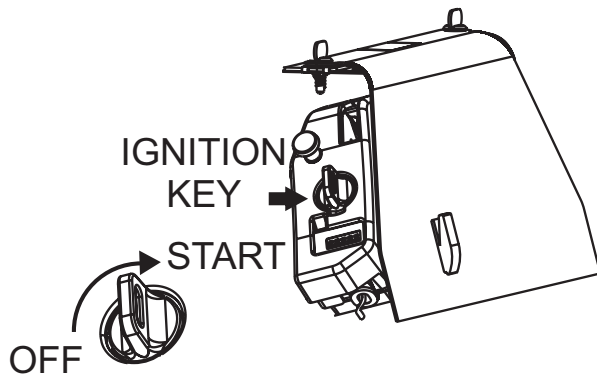

Figure 13. Ignition Key
4. Insert the ignition key (Figure 13) into the ignition switch.